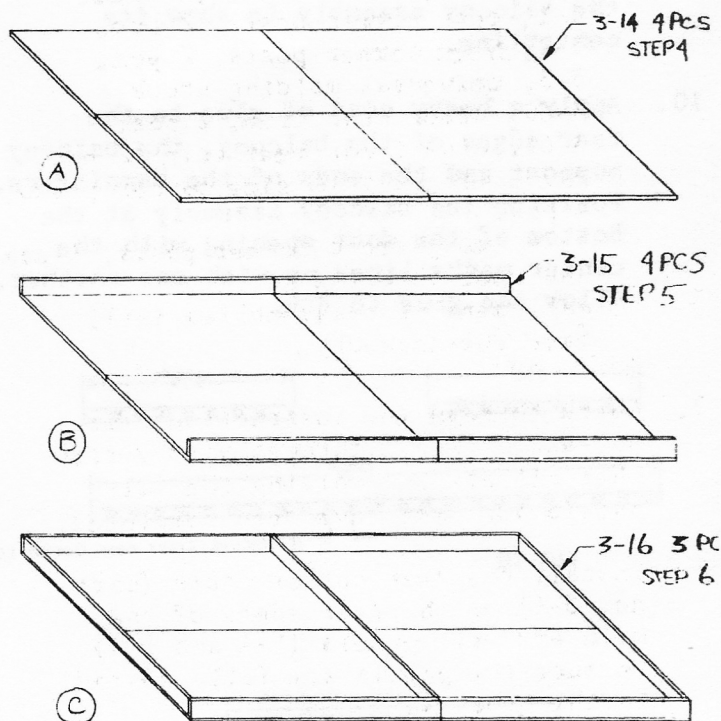

FIG. 23
4. Glue the four base pieces (part no. 3-14) together, as shown in figure 23. Apply the glue heavily to the mating surfaces, then press them together firmly.
5. After the glue from step 4 has set, glue the base edge pieces (part no. 3-15) in place, as shown in figure 23. Tape them in position, if necessary.
6. When the glue from step 5 has set, glue the crossmembers (part no. 3-16) in place as shown in figure 23.